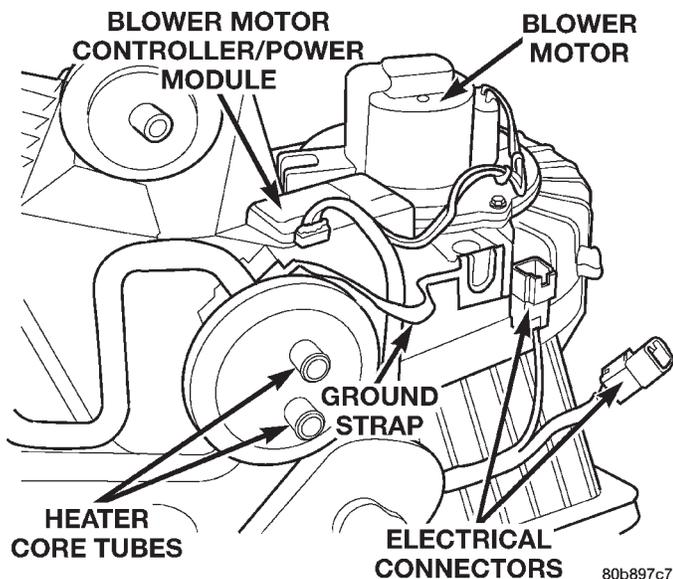

Fig. 27 Blower Motor Resistor or Controller/Power Module Remove/Install
- (1) Disconnect and isolate the battery negative cable.
- (2) Depress locking tab and unplug the wire harness connector from the blower motor resistor or controller (power module).
- (3) Depress locking tab and unplug the resistor or controller connector from the blower motor.
- (4) Remove the 2 screws that secure the blower motor resistor or controller to the heater-A/C housing.
- (5) Remove the blower motor resistor or controller from the heater-A/C housing (Fig. 27).